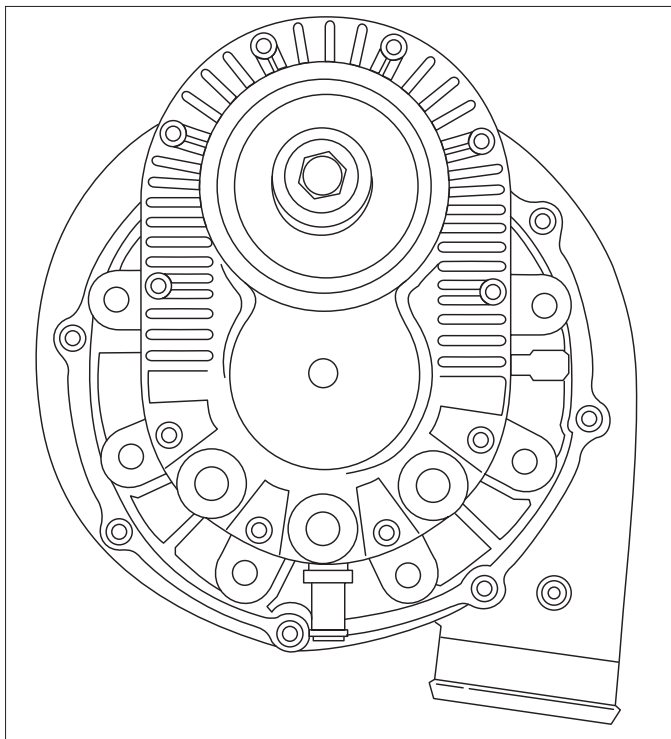

Fig. 2-a
- C. Carefully rotate the supercharger volute to the specified location as shown. (See Fig. 2-a.)